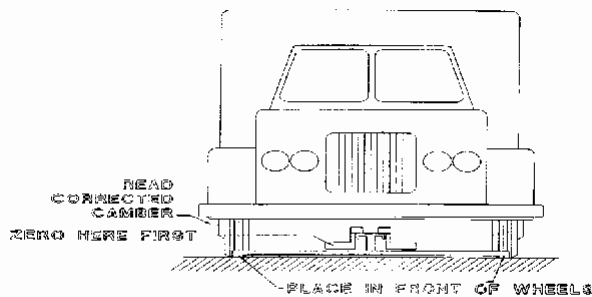

Figure 20
1. Place TLT-44 Level Compensator Bar (that has been assembled to match the tread width and is calibrated) in front of wheels as shown in Figure 20.